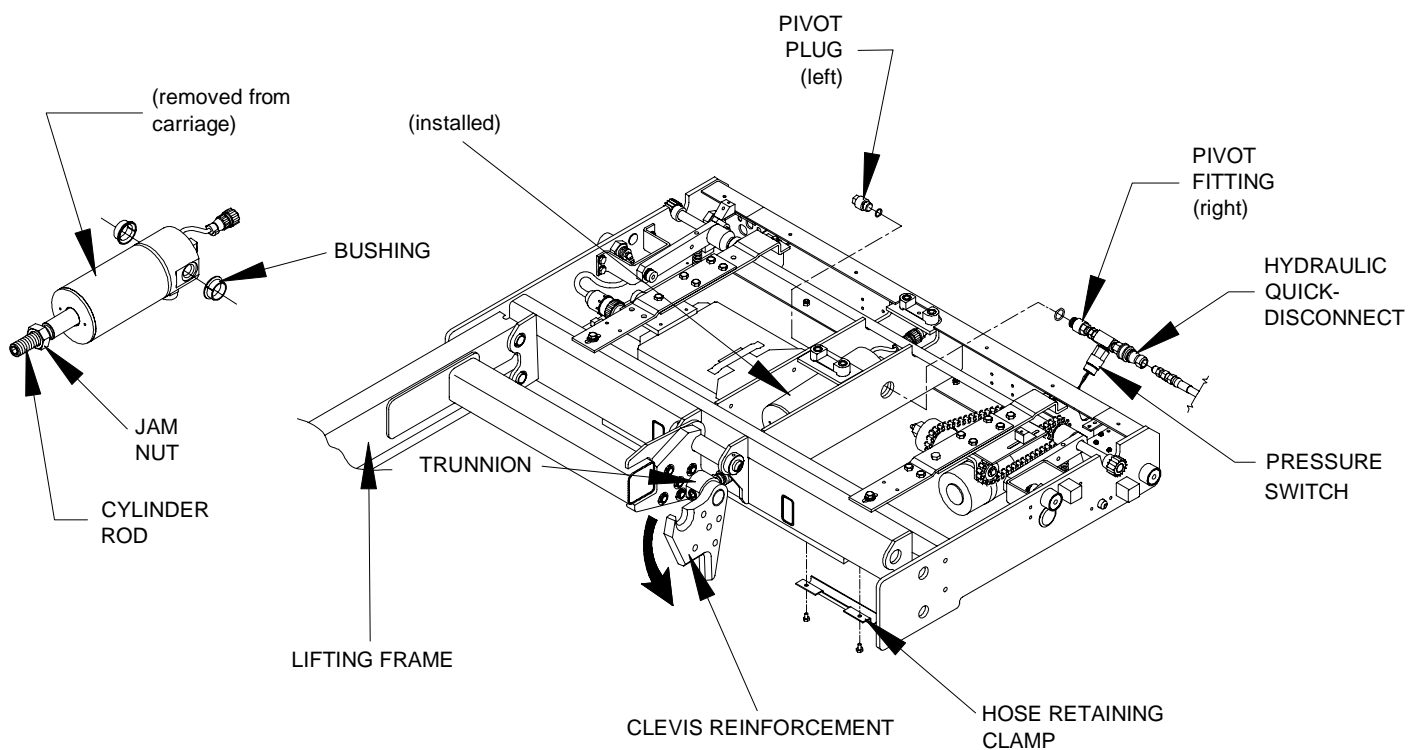

FIGURE 4-23: HYDRAULIC CYLINDER AND RELATED COMPONENTS
- 6) Refer to **Figure 4-23**. Disconnect hydraulic hose from quick-disconnect fitting; this could require removing hose retaining clamp.
- 1) Refer to **Figure 4-23**. Assemble jam nut and trunnion onto hydraulic cylinder piston rod. Install two cylinder pivot bushings into carriage frame (with flanges towards center of frame).
- 2) Refer to **Figures 4-23** and **4-24**. Remove hose retaining clamp from bottom of carriage. Remove hose clamp behind pull box (inside enclosure).
- 7) Refer to **Figures 4-23** and **4-24**. Install hose retainer clamp on bottom of carriage. Install hose clamp behind pull box (inside enclosure).
- b. Refer to **Figure 4-23**. The controller is taken out of carriage from below on some models (through access hatch), but can be removed from above on others.